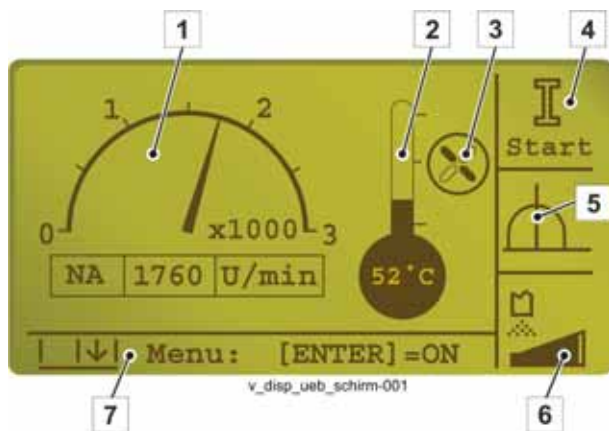

Fig. 71 Start screen
"LOCAL" operating mode active! Field (5) (Fig. 71) on the display shows this symbol.
While the "Local" operating mode is active, the following symbols may be displayed in field (4) on the start screen (**Fig. 71**).